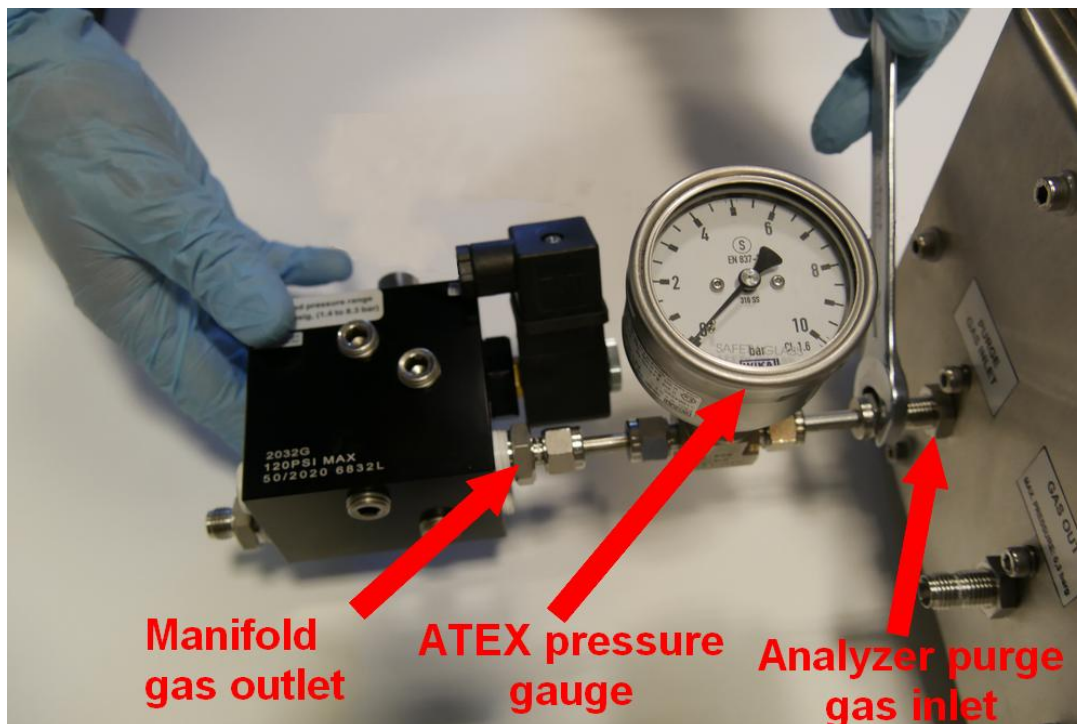

Figure 162. Manifold installation.
2. Connect a 6 mm gas tube (10) between the outlet of the manifold block and the purge inlet of the analyzer housing (1). Connect the ATEX pressure gauge (16) included in the kit between the manifold and the analyzer as shown in **Figure 162**. Use 14mm wrench.